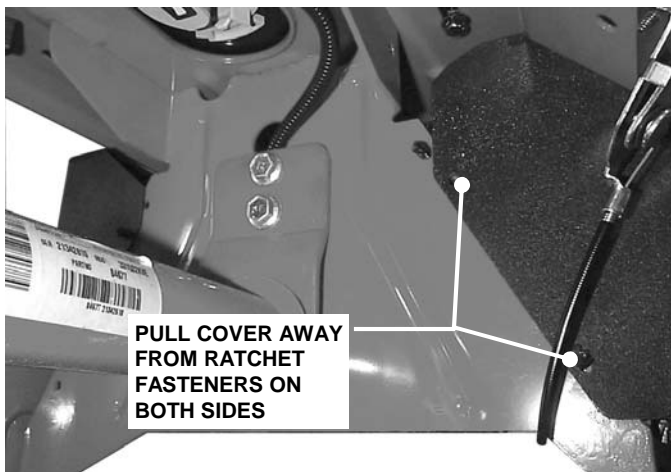

FIGURE 1
- Remove battery cover by pulling each side away from ratchet fasteners. See Figure 1.